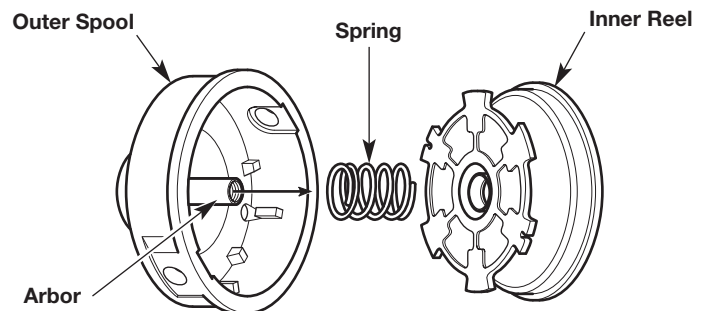

Fig. 16
NOTE: The outer spool (Fig. 16) will remain attached to the unit.
3. Remove the inner reel from the outer spool (Fig. 16).
4. Remove the spring from the inner reel (Fig. 16).